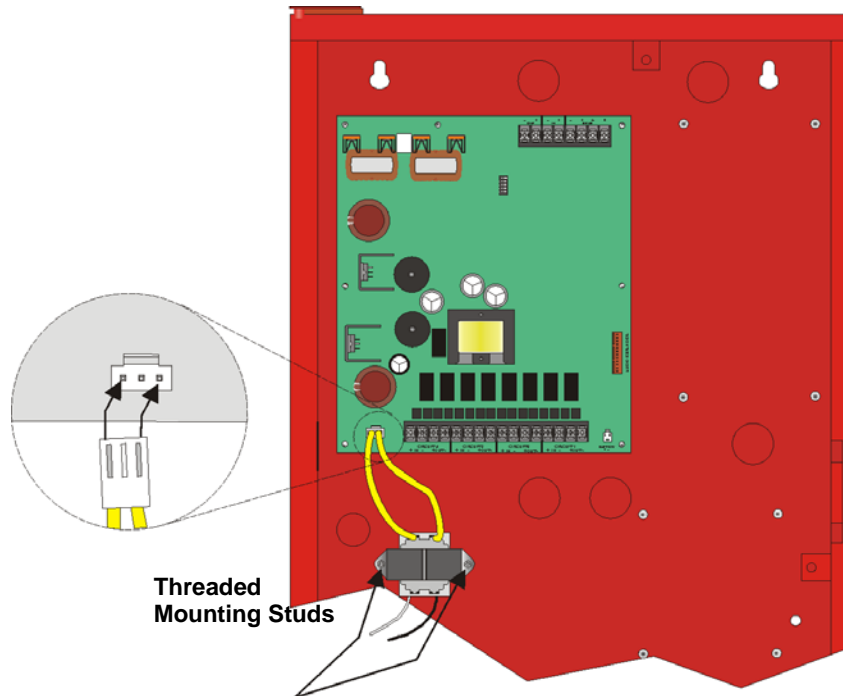

Figure 3-23 Transformer Mounting
3. Mount the transformer onto the threaded cabinet transformer mounting studs using the supplied locking hex nuts as shown in Figure 3-23.